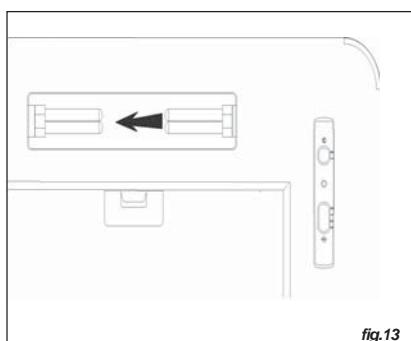

fig.13
3. To replace lamp, grasp lamp at base and pull out to remove. Fig.13